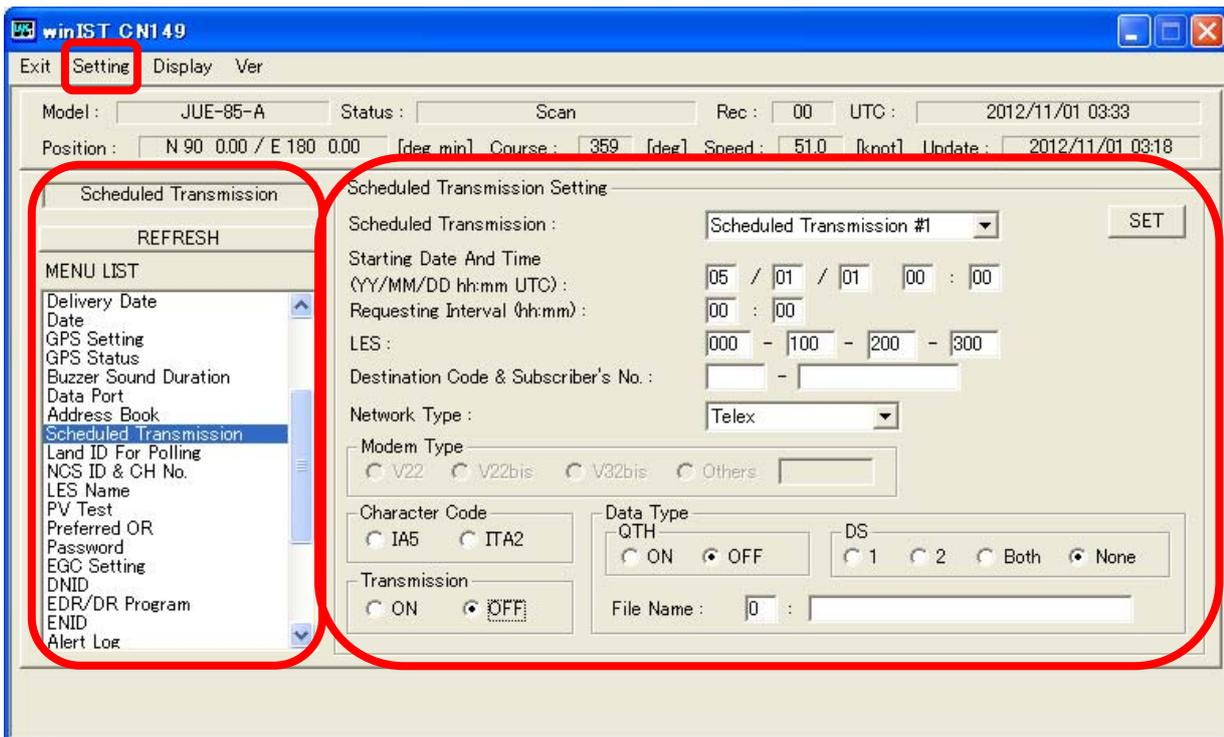

Fig. 4-17-1a [Scheduled Transmission] screen
2. Operation except [Exit], [Display], and/or [Ver] is not possible while winIST is communicating with INMARSAT terminal(the function in the frame of **Fig. 4-17-1a [Scheduled Transmission] screen** cannot be operated.)